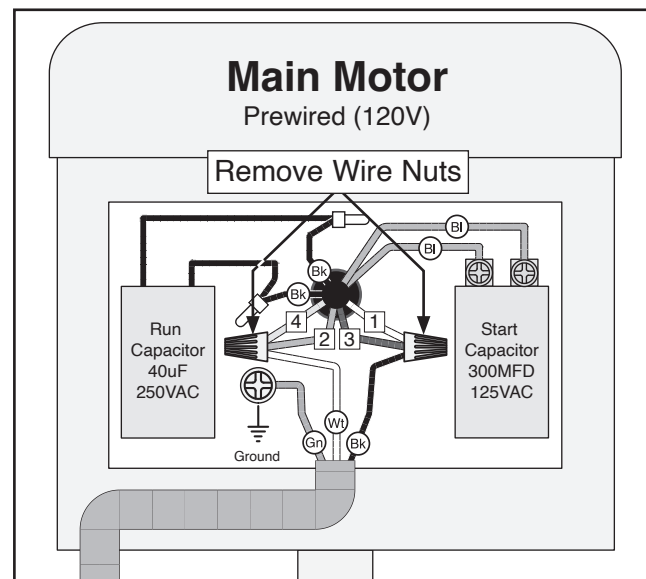

Figure 8. G0975 main motor (120V).
4. Remove electrical tape and wire nuts from wires in motor junction box (see **Figure 8**).